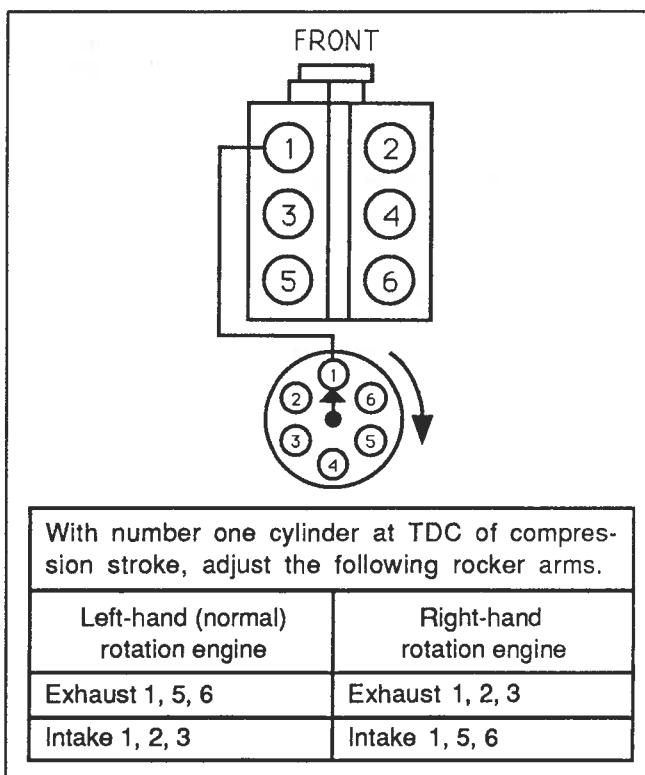

Figure 8-28. Adjusting Rocker Arms With No. 1 Piston At TDC Of Compression Stroke
2. With engine in No. 1 firing position, as determined above, the following valves may be adjusted (see Figure 8-28):